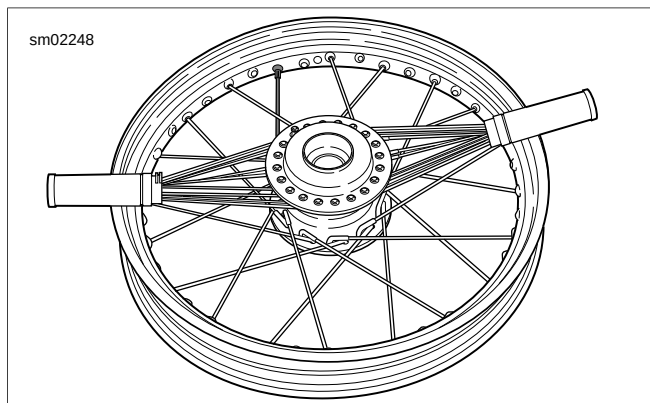

Figure 2-34. Beginning Spoke: Bottom Flange Outer
13. See Figure 2-34. Using the spoke alignment method discussed previously, locate a hole pointing downward and outward toward the bottom flange of outer spokes (short head).